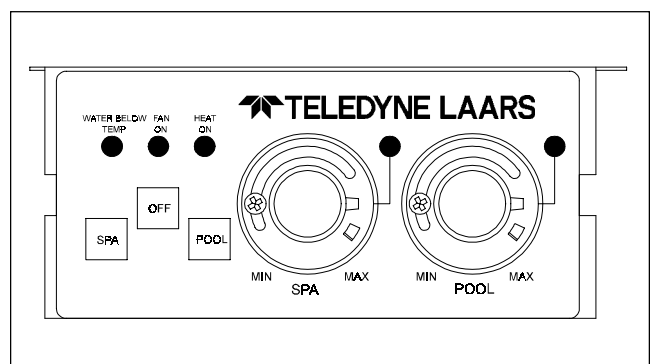

Figure 3. Temperature Control
1. Verify the heater is OFF. If it is necessary to turn the heater off, push the OFF button at the touch pad (see Fig. 3) and wait at least 3 minutes.
3. Correct orifice for the fuel being used. Figure 3 shows how the system works.